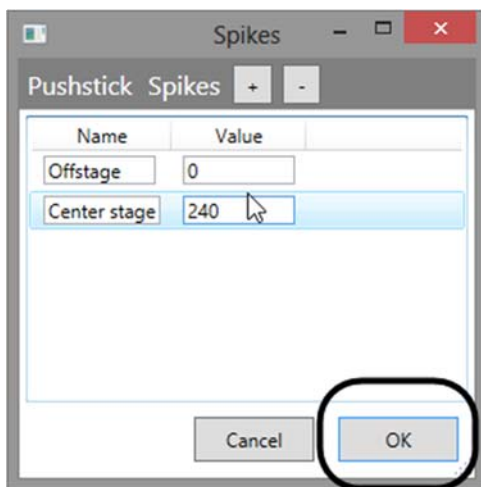

Figure 53
4. Select the *Center Stage Spike* to use it in *Cue 1* (Figure 53).